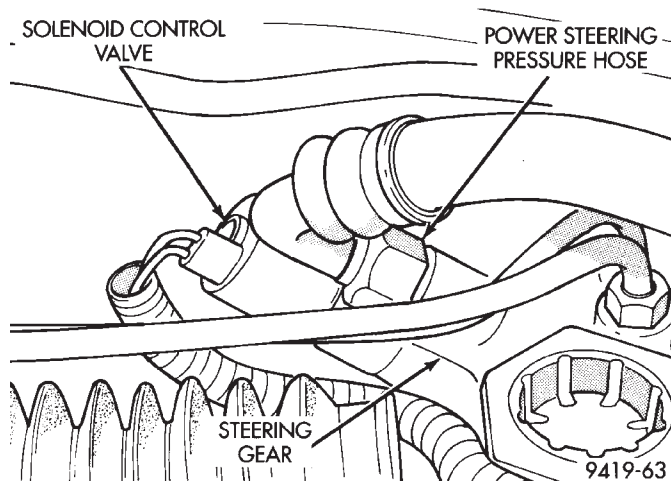

Fig. 8 Power Steering Pressure Hose At Steering Gear
(2) Remove the power steering pressure hose (Fig. 8) from the power steering gear.
(8) Remove instrument panel left and right end covers (Fig. 8). Refer to Group 8 Electrical in this service manual for the required removal procedure.